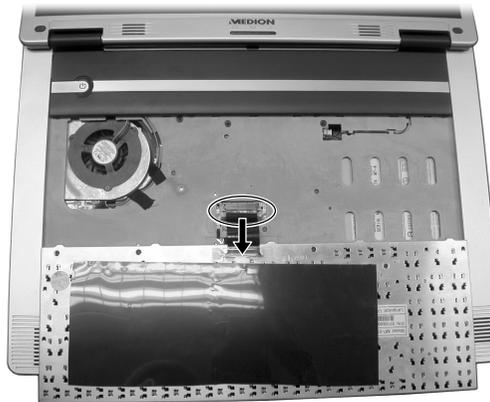

Figure 2-3 Free the keyboard
4. Slightly put the keyboard upside down and disconnect the cable from the system board, then separate the keyboard. (Figure 2-3)